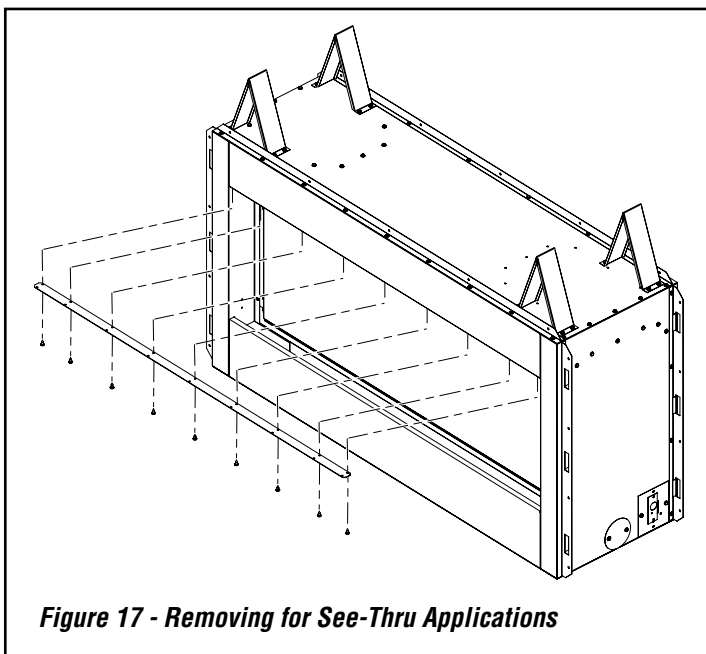

Figure 17 - Removing for See-Thru Applications
2. Unscrew mount bracket from top face as shown in **Figure 17**. Discard mounting bracket and replace screws.